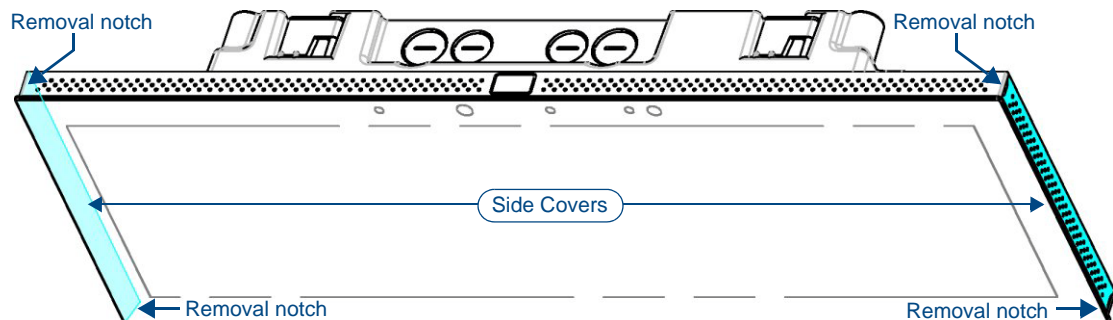

FIG. 35 MXD-1900L-PAN Side Covers (highlighted in blue)
1. The MXD-2000XL-PAN and MXD-1900L-PAN have removable side covers on the left and right (landscape) or top and bottom (portrait) (FIG. 35).
Note that FIG. 35 shows the MXD-1900L-PAN, but the illustration applies equally to the MXD-2000XL-PAN.
Also note that FIG. 35 shows a landscape panel but the installation of a portrait panel is essentially the same, other than the vertical orientation. :